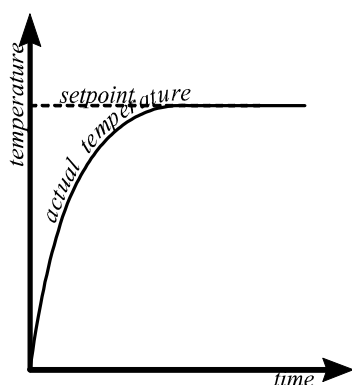

fig 1 - simple control
- Easy use as a simple temperature controller, where on setting the required temperature the controller immediately attempts to reach and maintain it. Fig.1 indicates the type of temperature response when used in this way.
Press **Run/Hold** for 2 seconds to go into Reset mode. Use Down **q** or Up **p** from the Home List (i.e. when the temperature is displayed) to adjust the setpoint. The unit starts to control in the way indicated in Fig. 1.